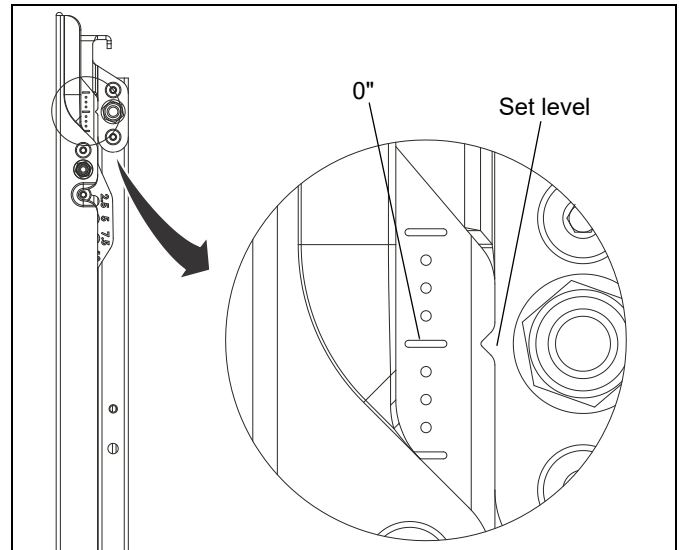

Figure 19
**NOTE:** Prior to installation, check to make sure height adjustment is centered. (See Figure 19)